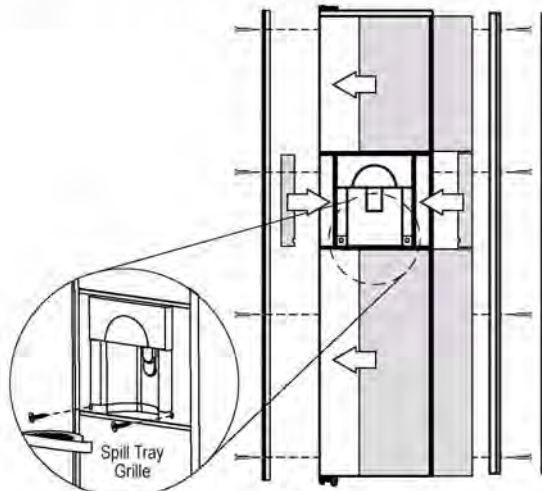

Fig. 9
See Owner Manual for switching "OFF / O" the unit. Reference Fig. 9 for door panel removal and installation. With panels removed reattach hinge trim. Lift slide out Spill Tray grille and remove 2 Torx screws ①, ②. Remove stainless steel liner ③. Remove 2 Torx screws from the control panel ④. Slide control panel down to remove. Disconnect terminals on back of control panel ⑤. Tuck dispenser terminal inside to avoid interfering with one-piece panel ⑥. Open door and slide one-piece panel into position. Reconnect control panel to dispenser terminal. Reattach control panel with 2 Torx screws. Reposition stainless steel liner into track and secure with 2 Torx screws. Reinstall the Spill Tray grille and door trim. Turn unit on.